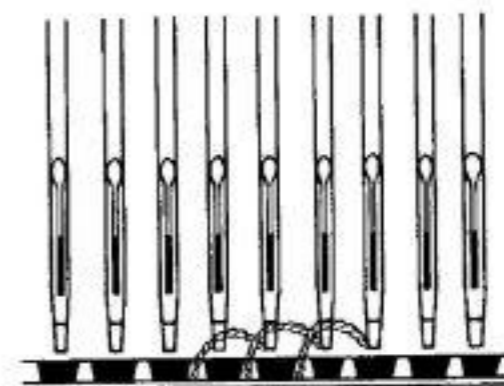

Fig. 24
- (1) Prior to raising the Attachment, turn the Pitch Handle 2 pitches to the left. (Anti-clockwise)
- (2) Raise the Attachment and turn Pitch Handle one more Pitch to the left. (See Fig. 24.)
- (3) Lower Attachment and knit 1 row.
- (4) Turn Pitch Handle 2 pitches to the right.
- (5) Raise Attachment and turn Pitch Handle one more pitch to the right.
- (6) Lower Attachment and knit one row.
- Repeat from (1) above.